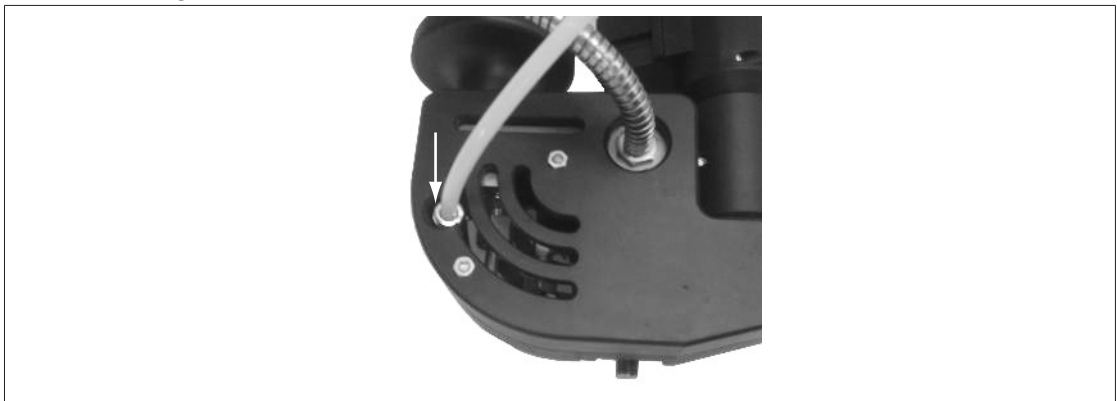

Figure 5: Connect the compressed air supply
5. Connect the 6 mm PTFE air hose coming from the heatable hose to the corresponding connector of the HB 950 (see Figure 5).